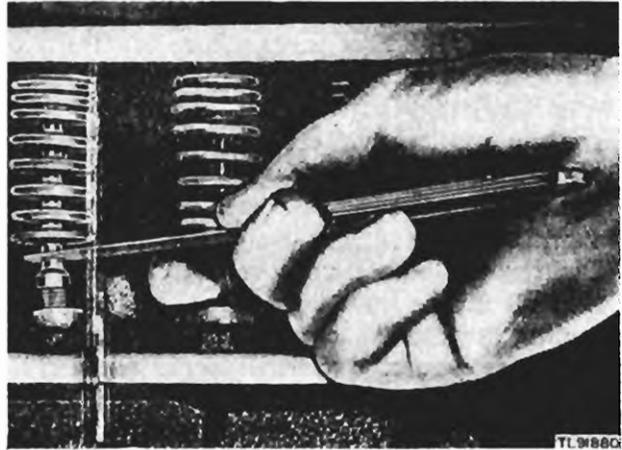

Figure 42. Checking valve tappets.
a. **WHEN VALVES NEED GRINDING.** (1) Lack of power in the engine may be caused by poor seating of the valves which allows the gases in the combustion chamber to escape into the intake or exhaust manifolds.
(2) By the use of the compression gauge, it can readily be determined which valves are not seating properly. Compression gauge readings should all be within 10 pounds of each other and not less than 70 pounds in Power Units PE-95-(1) and 100 pounds in Power Units PE-95-F and PE-95-(2).
(3) If no gauge is available, turn the engine with the hand crank and note whether the compression is uniformly good on all cylinders. Compression should throw the crank backward forcibly if allowed to do so when well up on the compression stroke. Compressed gases, leaking past an exhaust valve, cause a hissing noise at the exhaust outlet. If leaking past an intake valve, a hissing noise may be heard through the carburetor. Disconnect the air-cleaner horn at the carburetor and the exhaust line at the exhaust manifold, and while the engine is being cranked, listen for these sounds, if there is reason to suspect that the valves are leaking. Any valve leaks detected should be reported to the proper authority.
b. VALVE-TAPPET ADJUSTMENT. (1) The valve-tappet clearance on all Power Units PE-95-(*) should be checked with a feeler gauge. The clearance between the valve tappets and valve stem on Power Units PE-95-(1) should be 0.008 inch for the exhaust valves and 0.0125 inch for the intake valves. On Power Units PE-95-(2) and PE-95-F, both valves should be adjusted to a clearance of 0.014 inch. These clearances should be checked when the engine is cold (fig. 42).
(2) No provision is made for adjustment of the valve-tappet clearance on Power Units PE-95-(1) and when excessive or incorrect clearance is found it must be reported to higher authority.
(3) Power Units PE-95-(2) and PE-95-F are provided with adjustable valve tappets and any faulty adjustment should be corrected. All tools necessary for this operation are contained in the tool kit supplied with the equipment. Be sure, when making tappet adjustments, that the tappets are at their lowest point when the adjustment is being made.